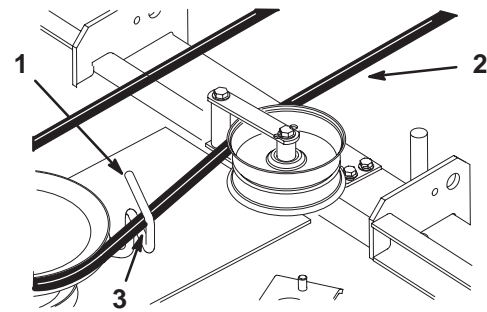

Figure 67
11. Rotate the belt guide on the rear of the mower so that it is 1/8-1/4 inch (3-7 mm) away from the vertical side of the PTO belt (Fig. 67).